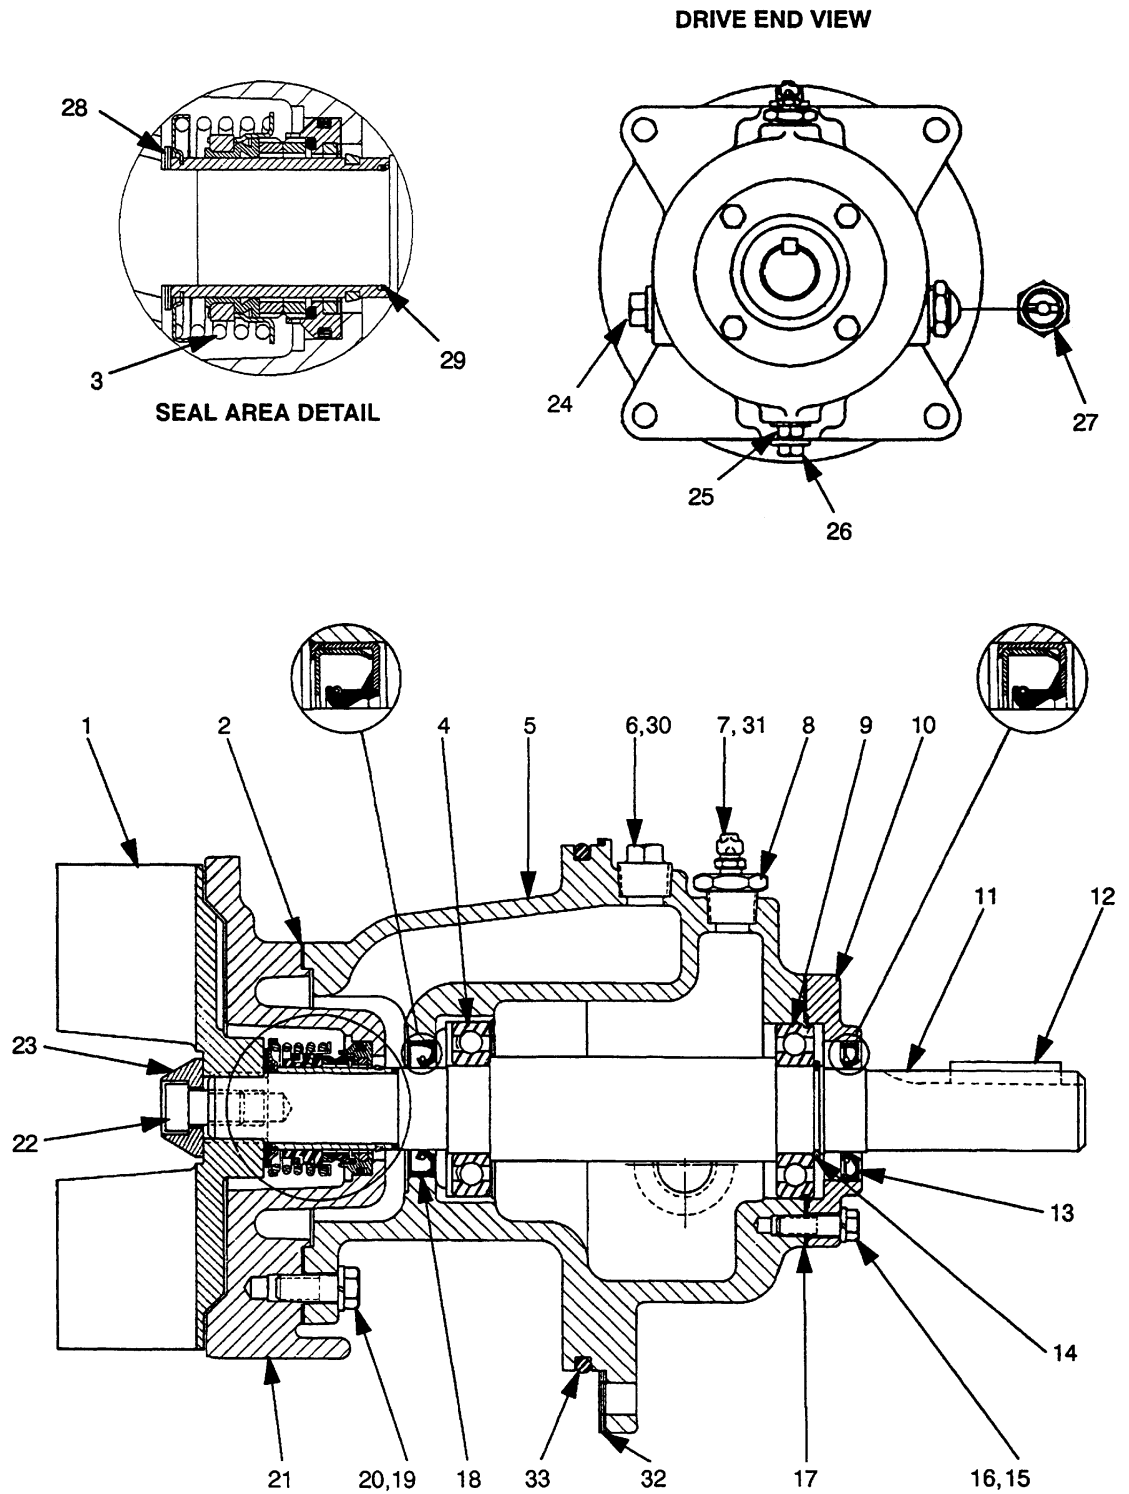

Figure 2. 11409E Repair Rotating Assembly
(Figure 2)
*To install the tool, remove the air vent (7, Figure 2) from the bearing housing, and screw the longest length of pipe into the vent hole until fully engaged. Install the tee, and screw the handles into the tee. Use caution when lifting the rotating assembly to avoid injury to personnel or damage to the assembly.*
**Seal Removal****(Figure 2)**